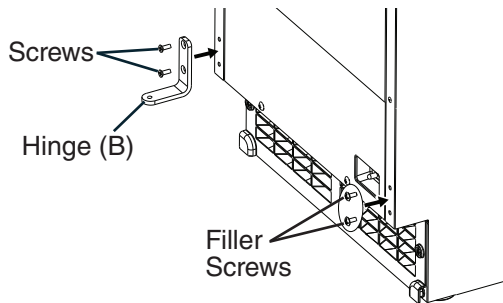

Fig. 13
d) Remove hinge (B) from the right side of the unit and the 2 filler screws from the left side. Attach the 2 filler screws to the right side and attach hinge (B) to the left side. See Fig. 13.